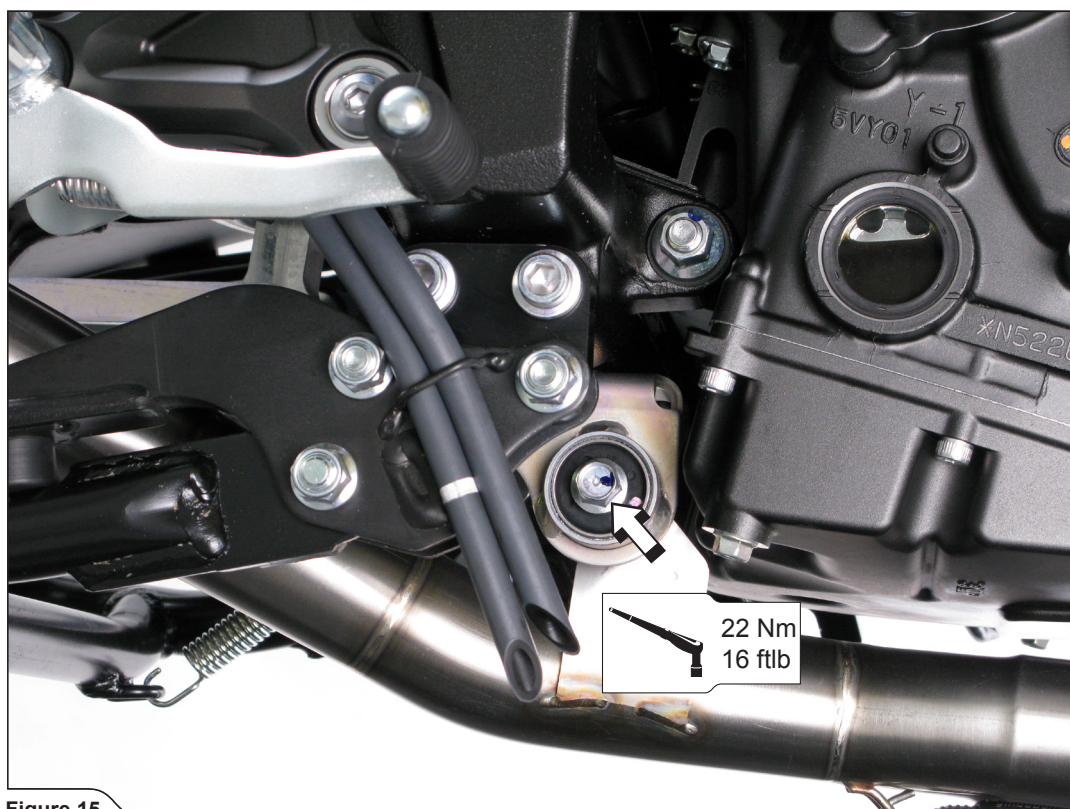

Figure 15
7. **For Akrapovič Racing only:** tighten the link pipe bracket using stock bolt and washer (Figure 15).